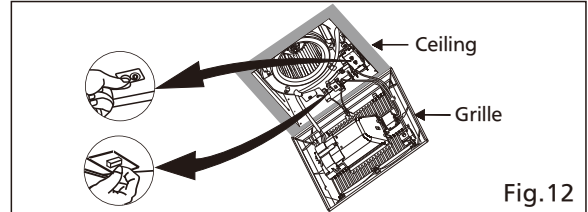

Fig.12
15. Adjust Pick-A-Flow switch; if used, adjust the FV-VS15VK1 Multi-Speed module. (Fig.12) Refer to indication on page 6.